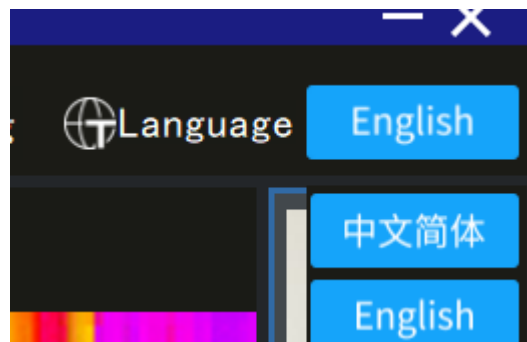

Figure 7 Language Selection
5. At the upper right corner, click “language” to switch the language of software. As shown in figure 7.